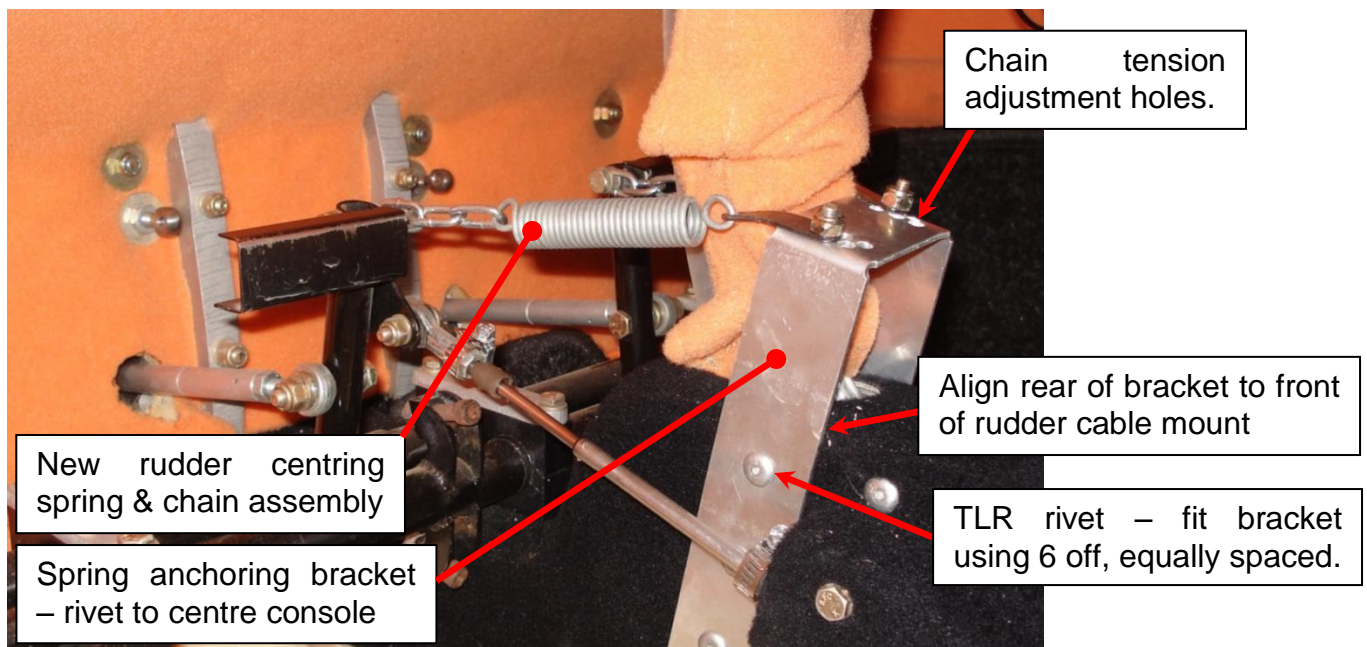

Figure 3 – New Rudder Centring Springs
- Fit the new spring mounting bracket to the aircraft's centre console using 6 off TLR rivets as shown in Figure 3. The exact position is not critical – but it should be aligned with the front of the rudder cable mount and positioned so that the chains and springs run as straight as possible.
- Fit the new springs as shown in Figure 3. Adjustment of these springs is important for correct handling of the aircraft. The springs must be set so that when the rudder pedals are centred neither spring is carrying any load – but as soon as the pedals move slightly a spring takes up tension. If the springs are set too tight – i.e. when the pedals are centred both springs are carrying some tension – this will reduce the centring effect of the spring system and must be avoided. If the springs are set too loose the pedals must move too far before there is any centring effect – this makes the system ineffective near centre and must also be avoided.